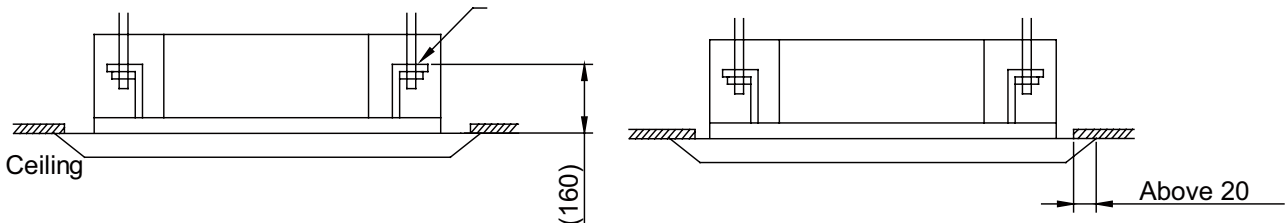

Fig. 2
(3). Adjust the unit to the suitable installation place. (Refer to Fig. 2)